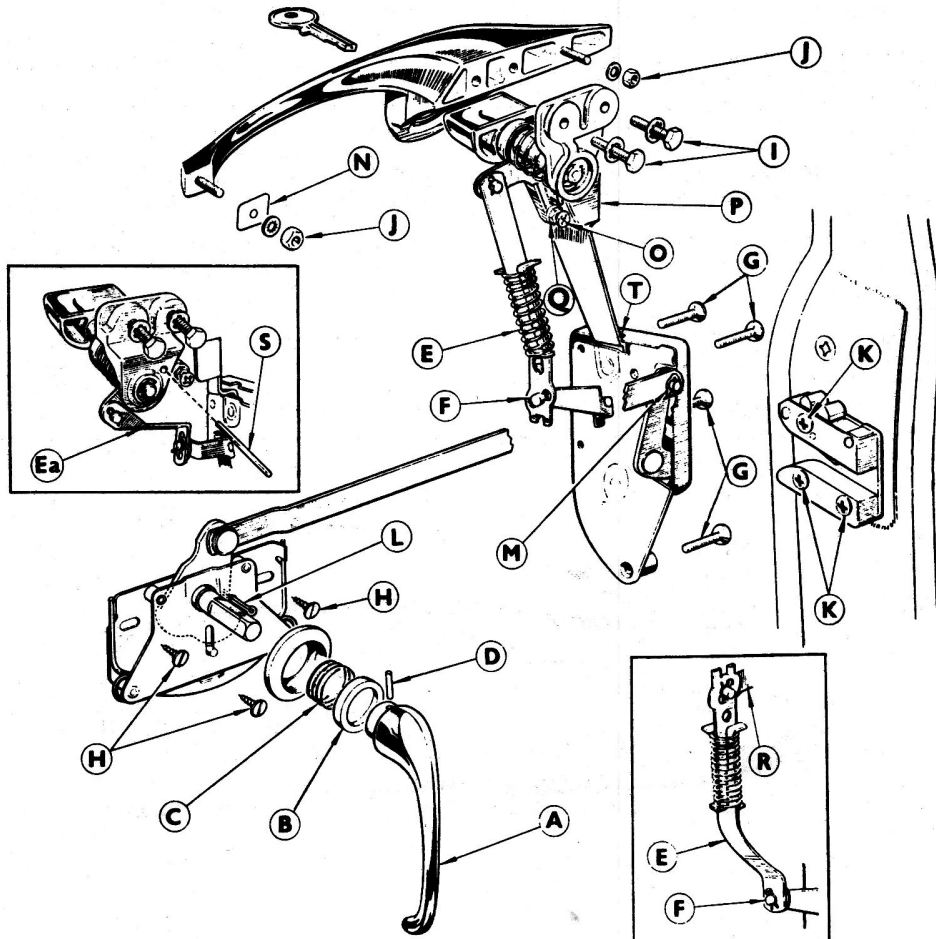

Fig.12.16. Latest type door lock mechanism
1 The latest type of door lock mechanism is shown at Fig.12.16.
11 Now attach the connecting link (E) (Ea for rear doors) to the dowel on the plunger operating lever (R) and then fit the circlip. The links must be fitted in the positions shown in Fig.12.16 but the extendable link used on early models is fitted in the reverse direction and the middle of the three holes is used as shown at the inset at the bottom right hand of the Figure. The old pattern link should be replaced by the latest type if practicable.